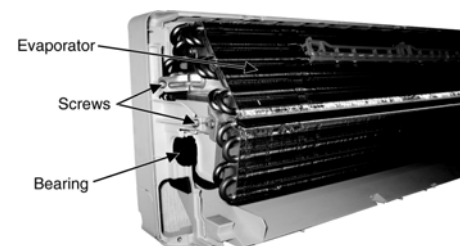

Fig. 11
- Remove the Bearing. (Fig. 11)
- Remove the screws at the left hand side of the Evaporator. (Fig 11)